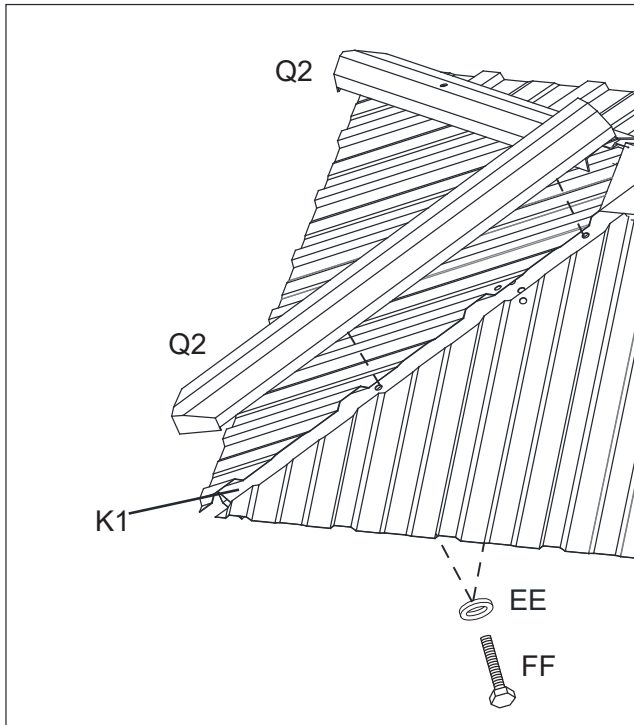

Figure 13-1
13.1: Attach the Roof Vent Corner Trim (Q2) to the Roof Vent Corner Support (K1) using Bolt (FF) and washer (EE). See Figure 13-1.